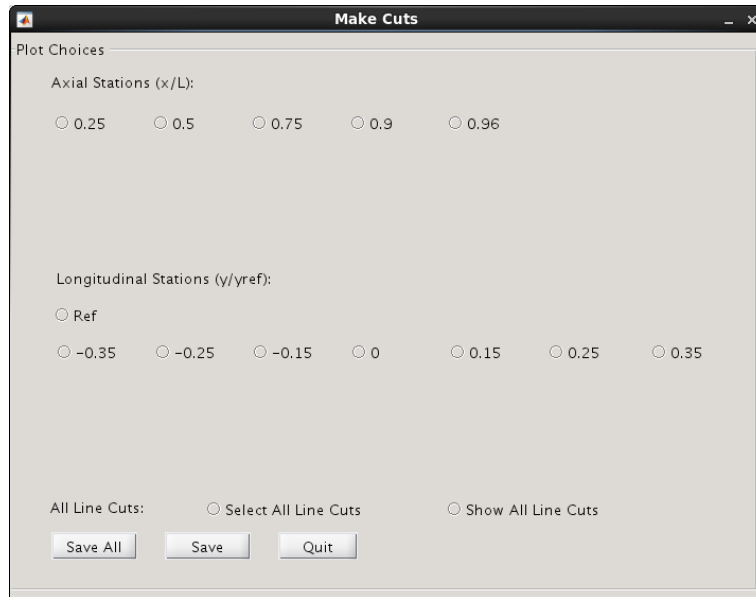

Figure 21: Image Tools, *Auto Profile: Make Cuts.*
4. The *Make Cuts* dialog box has several options for viewing and saving line cuts from an *Auto Profile* analysis (see figure 21).